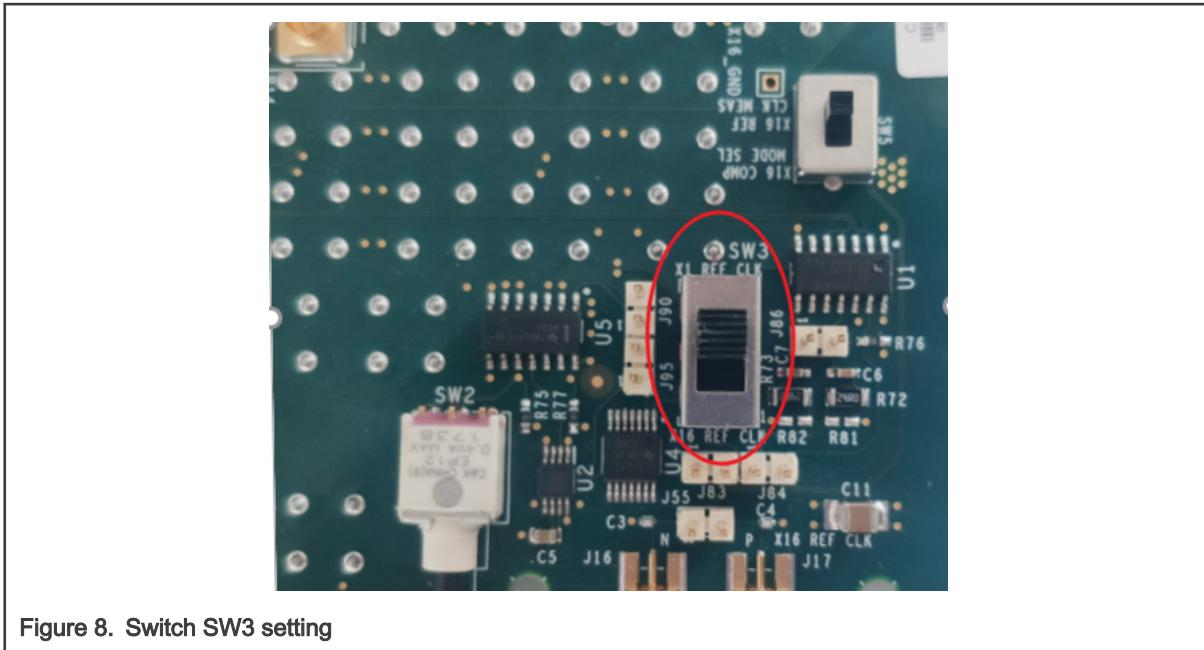

Figure 8. Switch SW3 setting
- a. Switch **SW3** to **x1 REF CLK**, as shown in Figure 8.